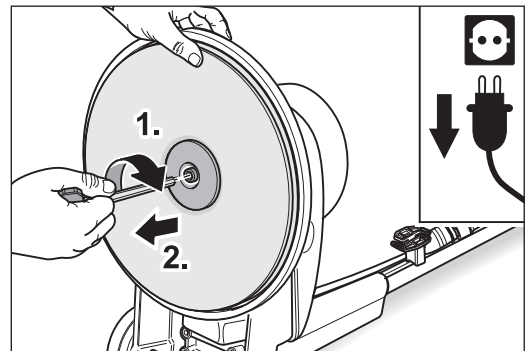

Fig. 18 Turn the screw for releasing the disc **in a clockwise** direction (it has a LEFT-HANDED THREAD)!
- 5 To release the paper retaining disc, turn the screw **clockwise** (LEFT-HANDED THREAD) with a hexagonal socket wrench. As you do so, hold the sanding plate steady (Fig. 18).